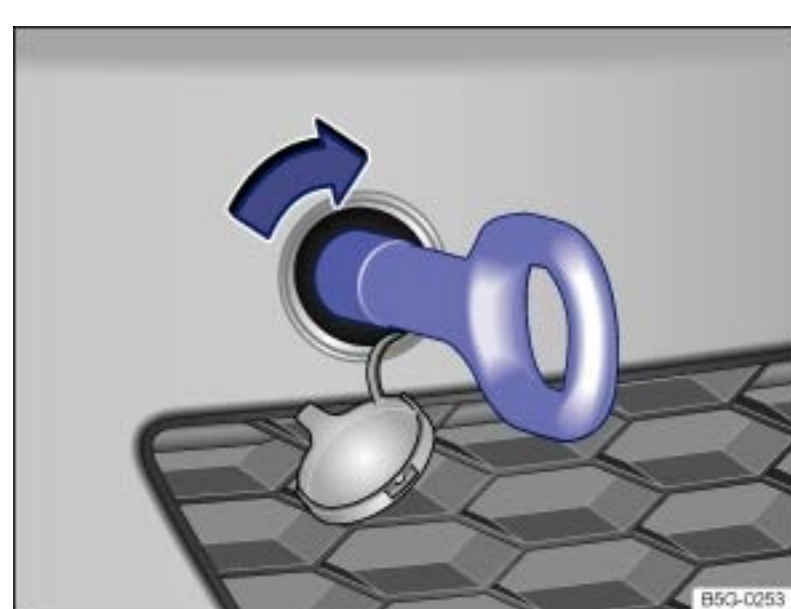

Fig. 227 In the right front bumper: Installing the towing eye.
There is a threaded hole for the towing eye in the right front bumper → Fig. 227.
- Screw the towing eye clockwise into the threaded hole as far as it will go (arrow) → Fig. 227 → . Use the lug wrench to turn and tighten the towing eye.